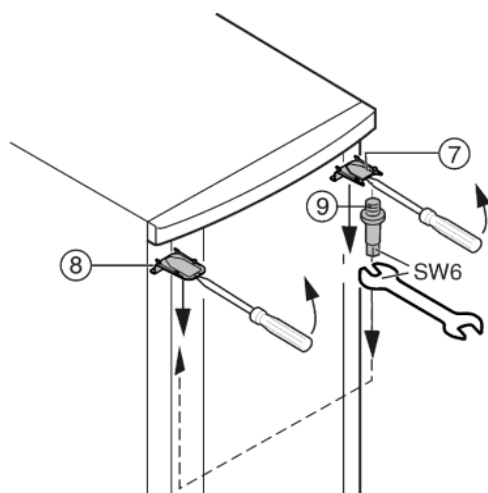

Fig. 6
- At the top, use a screwdriver to unclip cover *Fig. 6 (7)* and cover *Fig. 6 (8)* at the front, and remove by pulling out and down.
- Unscrew the bearing pin *Fig. 6 (9)* and screw it firmly into place on the opposite side (**with 4 Nm**).
- Refit the cover *Fig. 6 (7)* on the side of the bearing pin: insert at the back, snap in at the front.
- Fit the cover *Fig. 6 (8)* on the opposite side: insert at the back, snap in at the front.
- Hang the door on the bearing pin *Fig. 6 (9)* at the top.